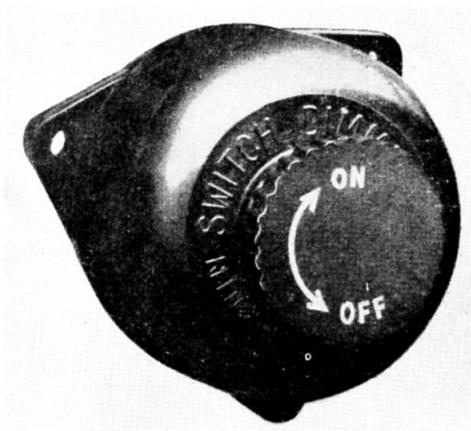

Fig. 1. Dimmer switch, Type F
1. The dimmer switch, Type F (*fig. 1*), is used to control instrument lighting. It consists of a variable resistance with an OFF position, and serves both as a switch and a control for the brightness of the lamp connected to it. The resistance is continuously variable, and the light may therefore be dimmed to any extent within the range provided.